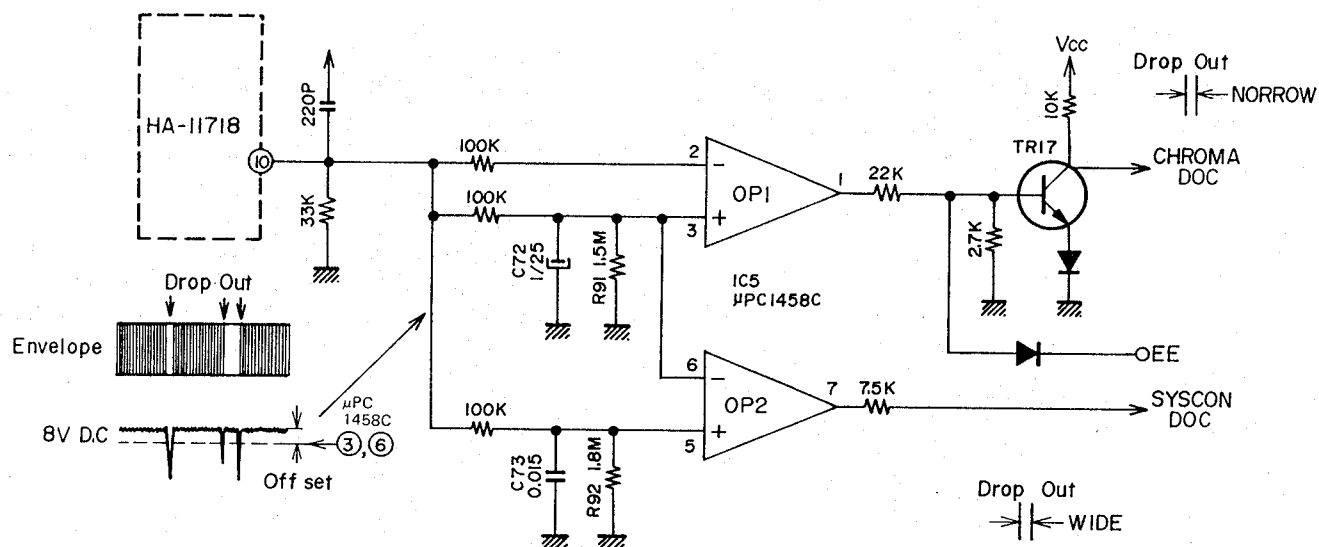

Fig. 67
At Pin (10) of HA11718 there appear waveforms as shown in Fig. 67, in proportion to the drop-outs. From these the DOC pulse is made with the use of an operational amplifier (μPC 1458C). To eliminate the dispersion of the DOC pulse (it is necessary to adjust by means of VR to restrict the dispersion) due to the dispersion of the DC voltage of PIN (10), the output of Pin (10) is smoothed to be a reference voltage and compared by 1458 to produce